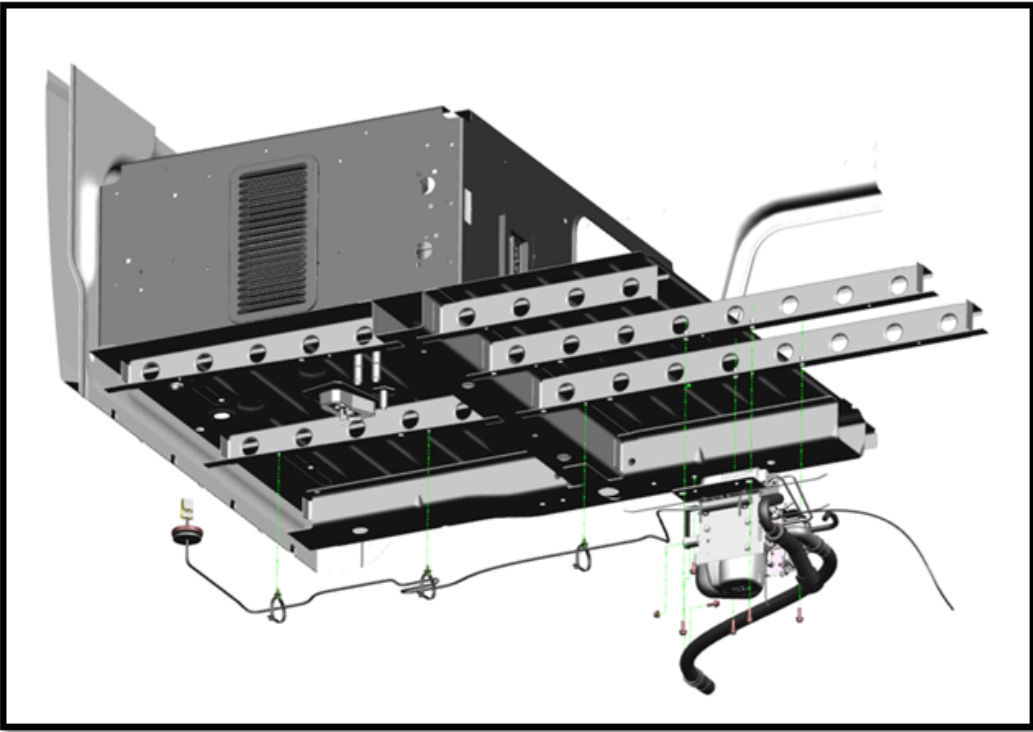

Figure 1: Hydronic S3 Heater (GEN 3) Location
- The Hydronic S3 heater (GEN 3) is located under the cab's sleeper area (**Figure 1**).